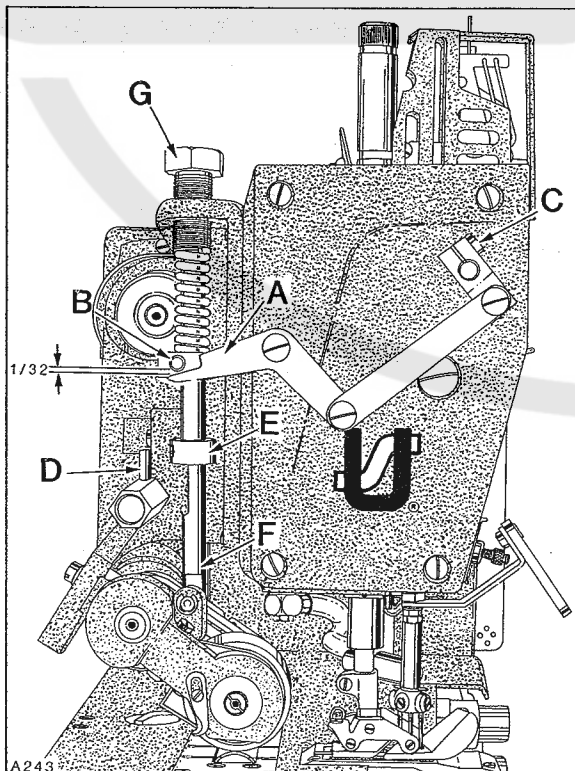

Fig. 40
With puller in operating position and presser foot resting on throat plate there should be 1/32 inch (.8mm) between puller lifter link (A, Fig. 40) and puller lifting pin (B). If adjustment is required loosen screw (C) in upper presser foot lifting shaft connection and raise or lower link (A) as required. Tighten connection screw (C) securely.